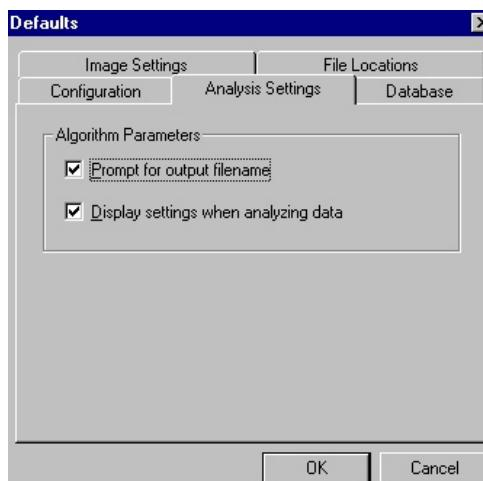

Figure 4.1.12
2. Click the **Analysis Settings** tab (Figure 4.1.12).